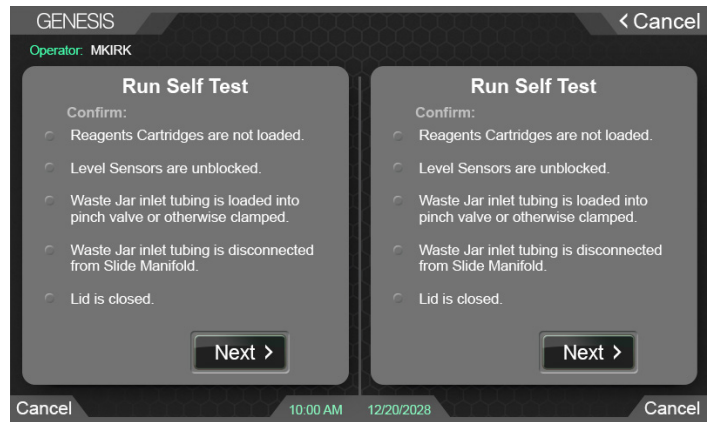

Fig. 19. Confirm Run Self Test.
- A confirmation list will appear on the screen, which lists the following actions/items the system looks for PRIOR to running the Self Test (Figure 19).